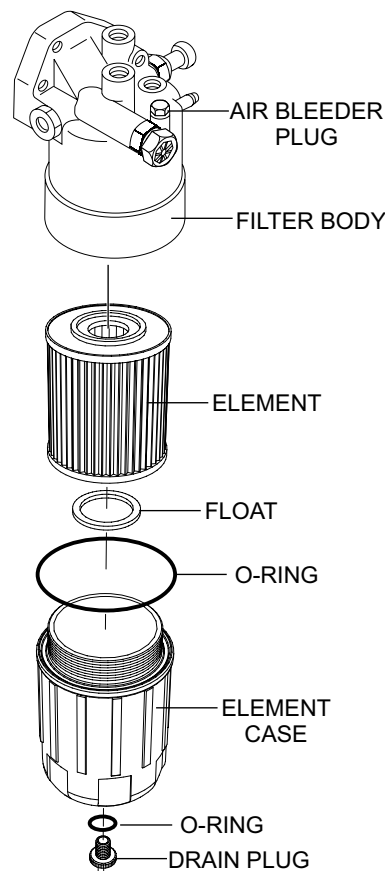

Figure 59. Fuel Filter Replacement
1. Use a filter wrench to remove the element case (Figure 59) from the fuel filter body.